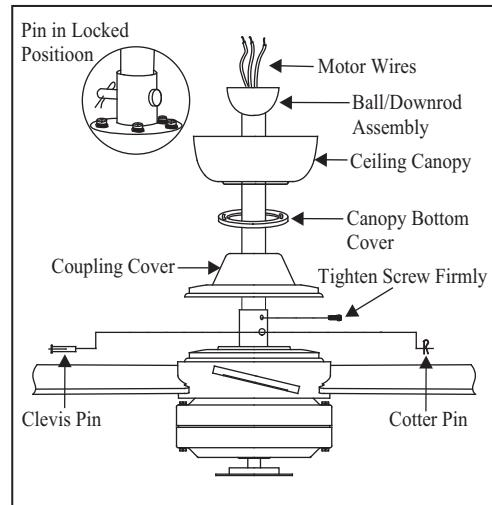

Figure 8
3. Remove the clevis pin, cotter pin and set screws from the top of the motor assembly. (Figure 8)
4. Route wires exiting from the top of the fan motor through the coupling cover, canopy cover, canopy and then through the ball/downrod. (Figure 8)
5. Align the holes at the bottom of the downrod with the holes in the coupling on top of the motor housing (Figure 8). Carefully insert the clevis pin through the holes in the collar and downrod. Be careful not to jam the clevis pin against the wiring inside the downrod. Insert the cotter pin through the hole near the end of the clevis pin until it snaps into its locked position, as noted in the circle inset of Fig. 8.